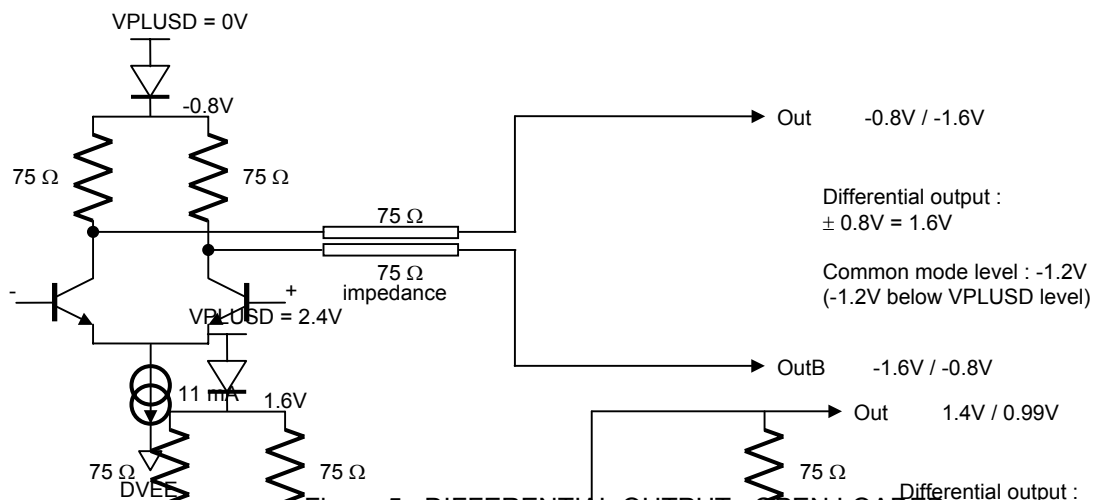

Figure 5 : DIFFERENTIAL OUTPUT : OPEN LOADED
3) 75 ohms impedance open transmission lines (Fig. 5) :